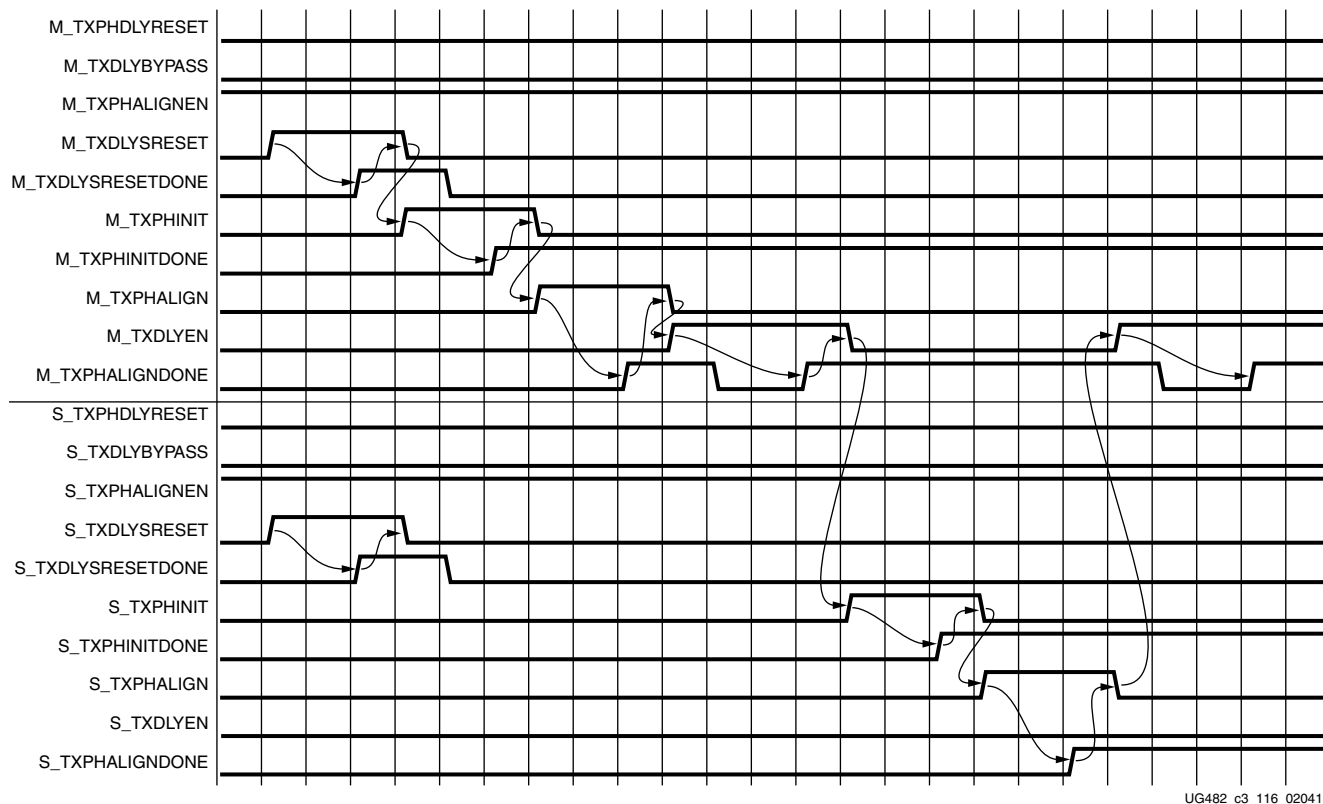

Figure 3-15: TX Phase and Delay Alignment, Multi-Lane Mode
Figure 3-15 shows the required steps to perform TX phase and delay alignment.
Notes relevant to Figure 3-15:
1. The sequence of events shown in Figure 3-15 is not drawn to scale.